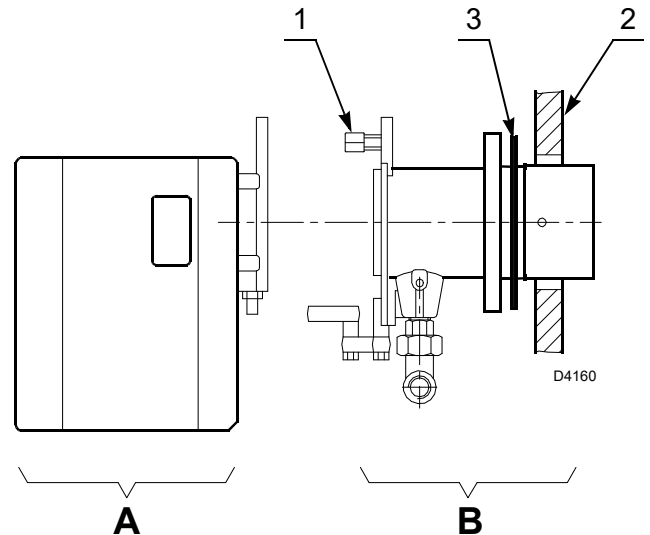

Fig. 7
- Separate the combustion head assembly from the burner body by removing nut 1) and removing the group A)(Fig. 7).
- Fix the group B)(Fig. 7) to the boiler plate 2), inserting the supplied insulating gasket 3).